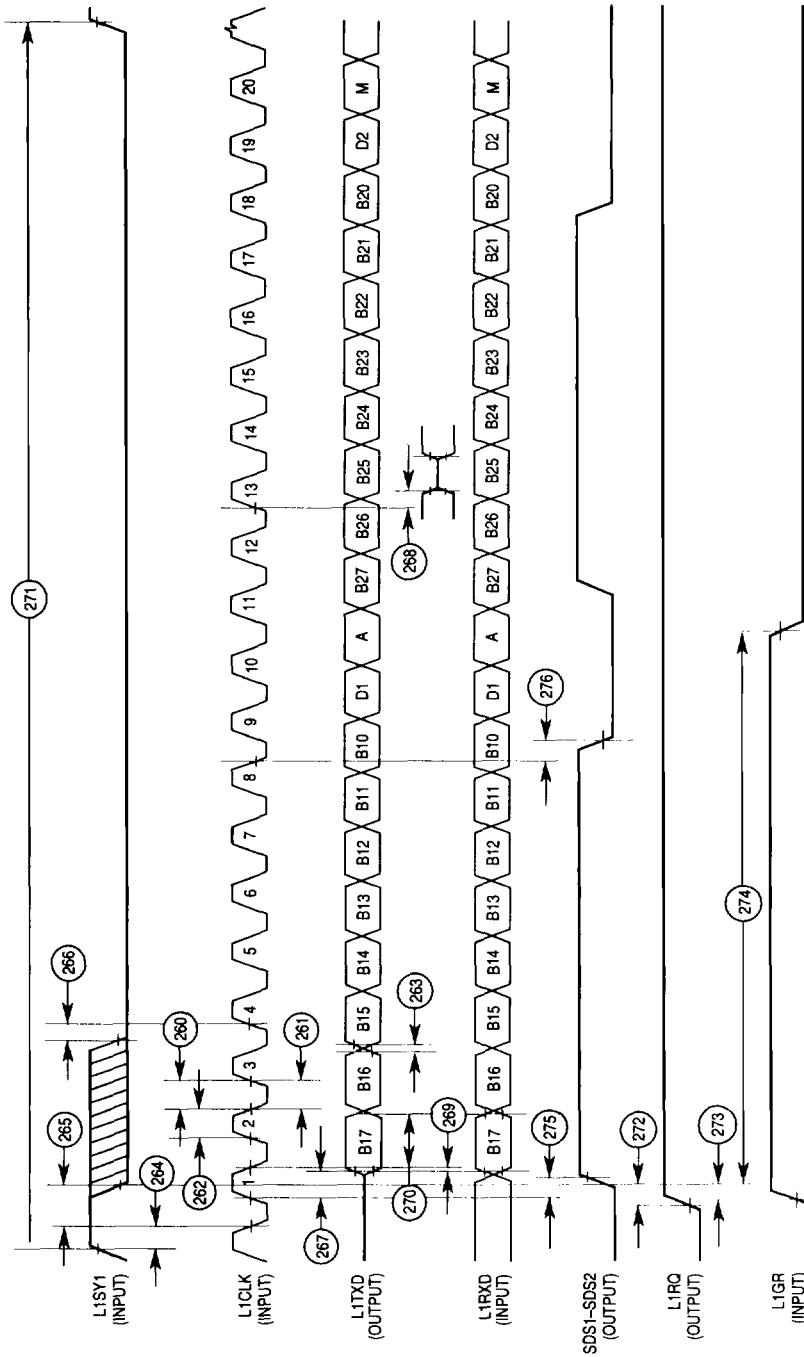

Figure 6-20. IDL Timing Diagram
**6.19 AC ELECTRICAL SPECIFICATIONS—IDL TIMING** (All timing measurements, unless otherwise specified, are referenced to the L1CLK at 50% point of VDD) (see Figure 6-20).